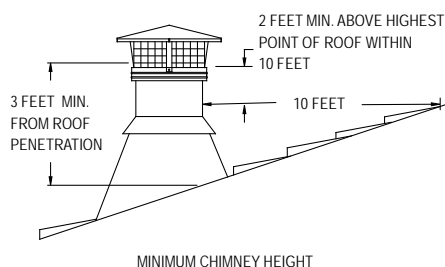
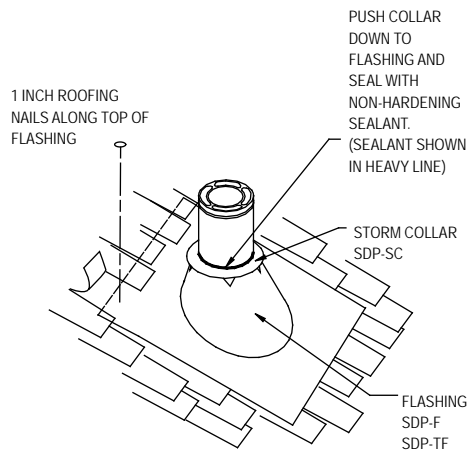

Figure 1
Figure 14
The National Fire Protection Association Standard #211 states: "Chimneys shall extend at least three feet above the highest point where it passes through the roof of a building, and at least two feet higher than any portion of a building within ten feet." (*Figure 1*).
9. Attach Flashing: In new construction, assemble the Chimney Sections to a point above the roof, then slip the Flashing over the chimney. On an existing roof, center and install the Flashing before extending the chimney above the roof. Allow space to permit sliding the next Chimney Section up through the Flashing. Always insure the chimney remains vertical, and that at least a 2-inch clearance to combustible materials is maintained all around. Install the upper edge of the Flashing under the roofing. Nail to the roof along the upper edge and the upper half on each side with 1-inch roofing nails. Do not nail the lower edge of the Flashing, or the lower half of the sides. (**Figure 14**). Seal all nail heads with a non-hardening waterproof sealant. On flat or tarred and graveled roofs, nail and seal the Flat Roof Flashing to the roof on all sides with roofing compound. Do not put screws through the Flashing into the Chimney Pipe.
chimney above the Flashing, and also along the vertical seam of the chimney pipe, which is exposed to the weather. **(Figures 14 and 15)**. Slide the Storm Collar down over the chimney to the top of the Flashing. Tighten and seal the Storm Collar against the sealant. After installing sufficient Chimney Sections to meet the height requirement, **(Figure 1)**, snap the Chimney Cap onto the top of the chimney. The Chimney Cap can be removed for chimney cleaning as described in the Chimney Maintenance section of the instructions. Use an Extended Roof Bracket if the chimney extends more than 4 feet above the roof.